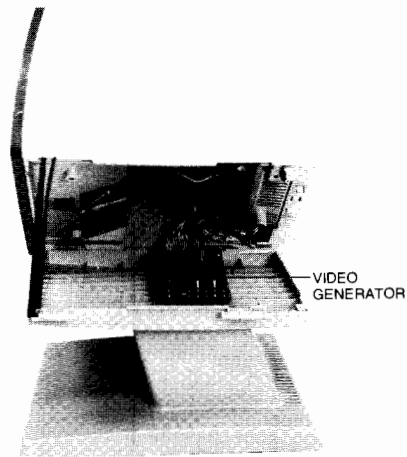

Figure 6-9. Video Generator Installed in Place of the Processor PCA
- 3. Install the Video Generator in place of the Processor PCA (figure 6-9) and connect the power and sweep cables to J1 and J2, respectively, on the Video Generator.